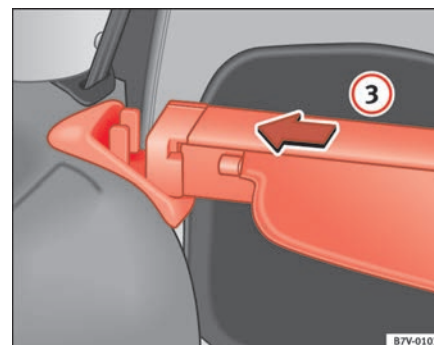

Fig. 115 Luggage compartment cover:: holders on the right
- Push the luggage compartment cover to the stop in the direction of the arrow ⇒ page 147, fig. 115 ③ into the left-hand holder.